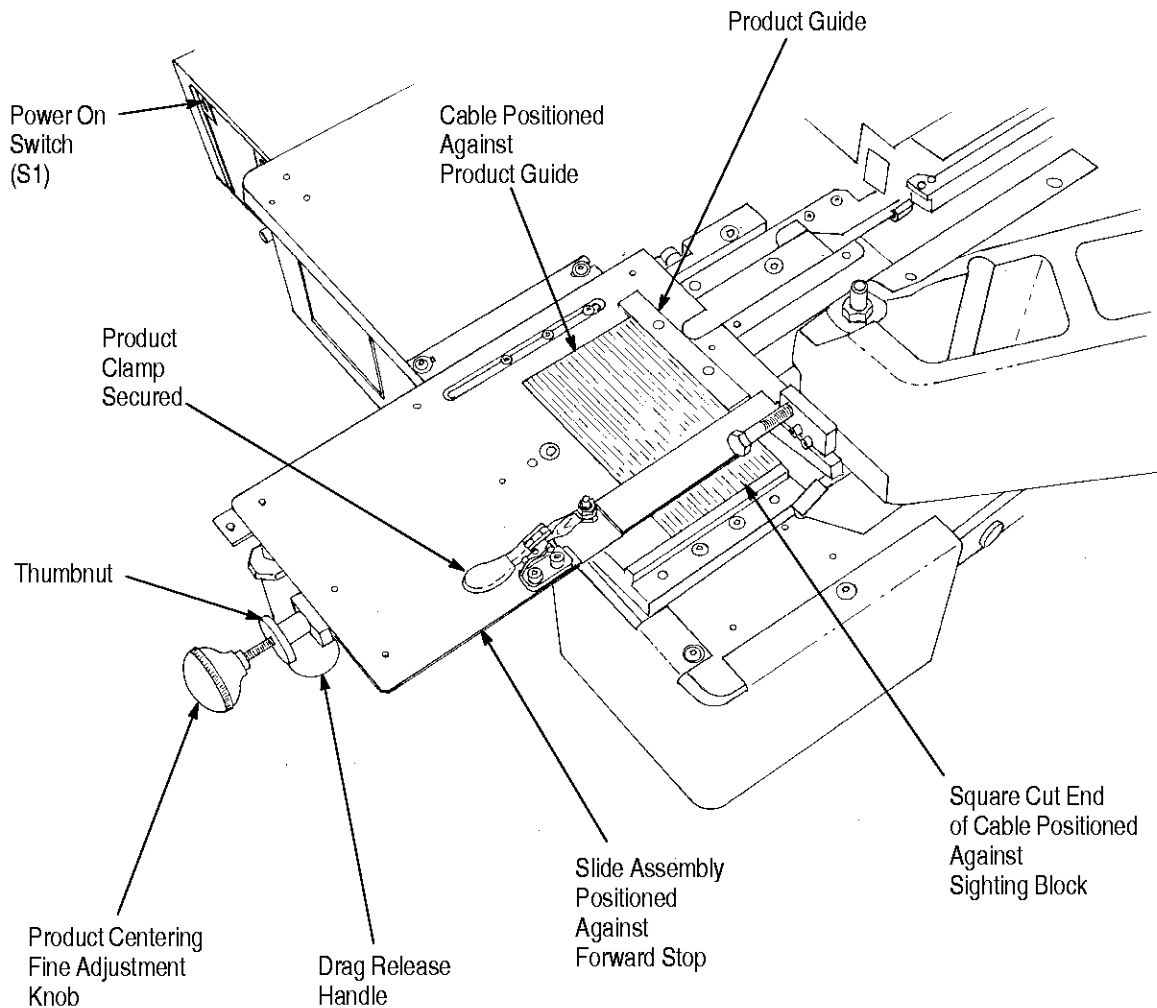

Figure 9
1. Position slide assembly against forward stop, as shown in Figure 9; then depress the PWR ON switch (S1), to light the alignment lamp on the sighting block.
5. Observe the relationship of the conductor under the anvil. To center the conductor under the anvil, loosen the thumbnut, (see Figure 9) and rotate the product centering fine adjustment knob. Rotate **CLOCKWISE** to move the slide assembly toward the back of the machine, **COUNTERCLOCKWISE** toward the front of the machine. One revolution moves the slide assembly approximately 0.25 mm [.010 in.]